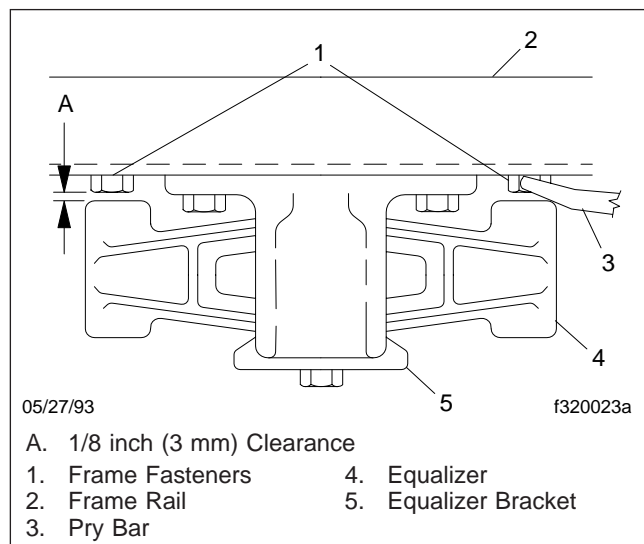

Fig. 4, Top View of the Equalizer
7. With the vehicle unloaded, attempt to move the equalizer side-to-side, using a pry bar between the equalizer and frame rail. Apply hand pressure only. See **Fig. 4**. If clearance between the equalizer assembly and any frame component or fas-